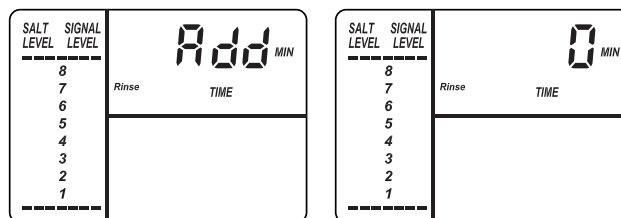

FIG. 35
**BACKWASH & FAST RINSE TIMES:** If you experience salty tasting water after regeneration, you may need to increase the backwash and fast rinse times. The cycle times during regenerations are determined by the softener's electronic controller. However, you may increase the backwash and fast rinse times, in 1 minute increments. If you wish to increase the backwash time, use the  $\triangle$  UP button to add up to 15 minutes to the backwash time. Then press SELECT to display the alternating screens shown in Figure 35.